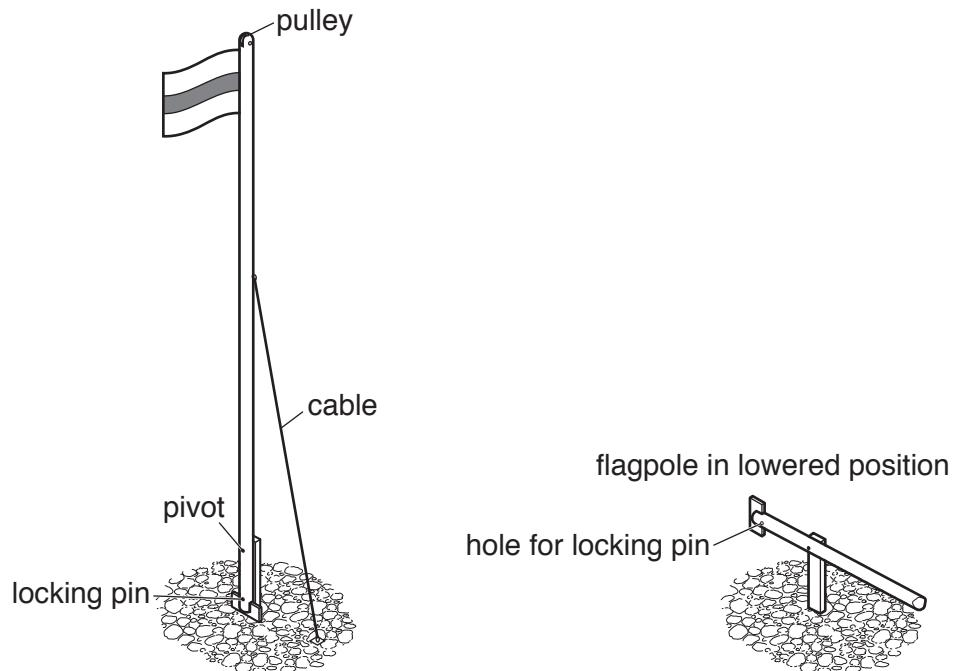

Fig. 6
- (c) Fig. 6 shows a flagpole made from aluminium tube.